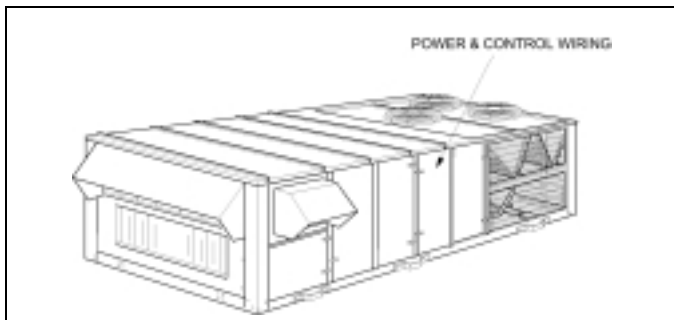
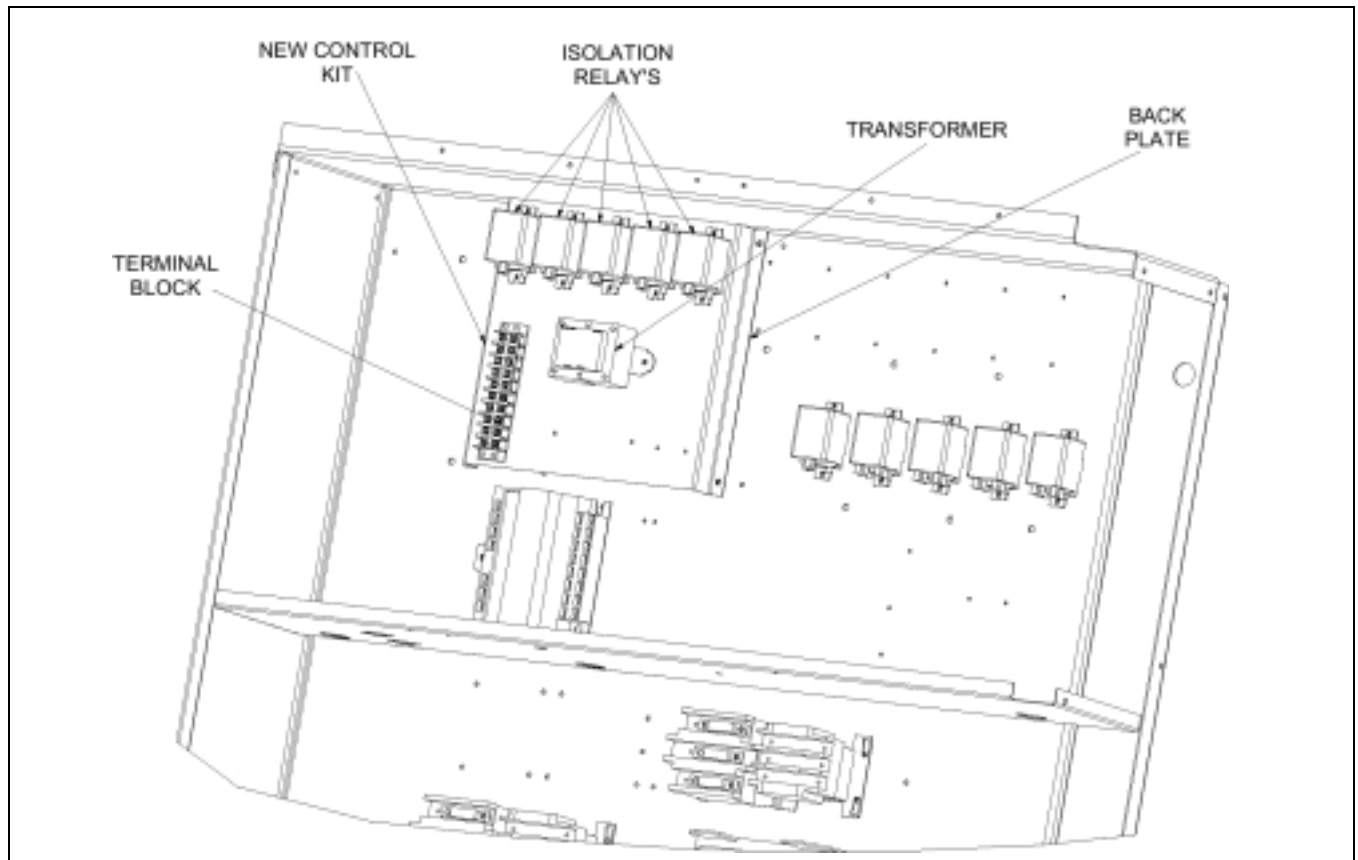

FIGURE 1: POWER & CONTROL WIRING LOCATION
FIGURE 4 : NEW LOW VOLTAGE CONTROL COMPONENTS
This kit contains all necessary electrical components, sheet-metal parts, and wires to replace the W7400 module and the T7400 thermostats used in all Constant Volume 30-40 Ton Millennium Style A units. The kit contains the wiring needed for all options including CV W/ Economizer, CV W/O Economizer, Optional Gas Heat, and Optional Electric Heat. Figures 1 and 2 illustrate the location of the Millennium controls and the location of the W7400 in the control section. The new low-voltage electric box will be as shown in Figure 4.
1. Locate the W7400 control module in the box-electric (Figures 1 and 2).
9. Locate the new control plate in box-electric in the location shown in Figure 4.